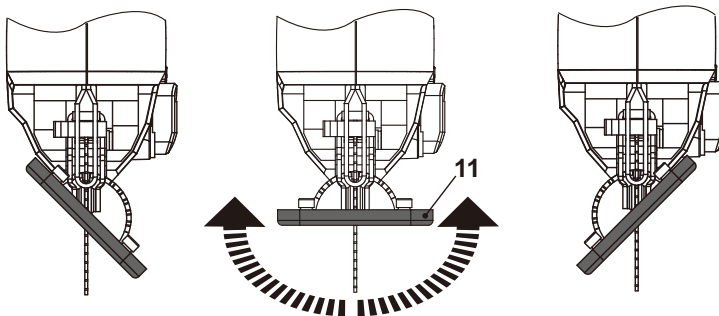

Fig. 8
- > Tilt the base plate (11) to adjust required cutting angle (Fig. 8).